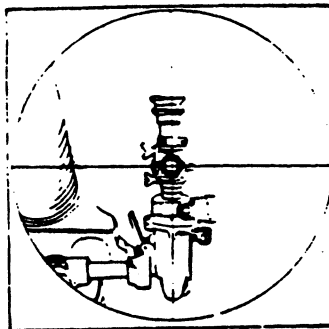

Fig 4-13. Sighting on the base mortar sight.
- (1) The platoon commander or platoon sergeant moves to the mortar sight of the base mortar and commands "Platoon, aiming point this instrument". The gunners of the other mortars refer their sights to the sight of the base mortar (fig 4-13) and announce "Aiming point identified".